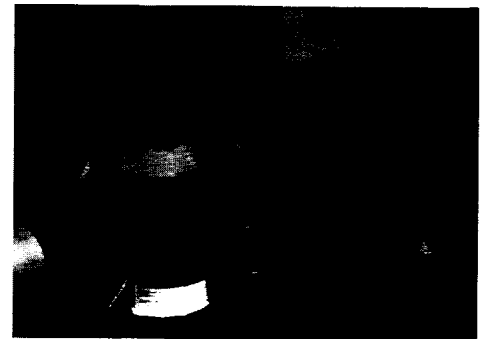

Figure 3 – Routing the 3-Wire Connector
3. Pass both 3-wire connectors through the same knockout hole in the boiler cabinet where the other wires currently pass. See Figure 3.